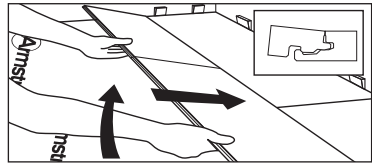

Fig. 13
4. Angle up and push forward until the boards lock together (Fig. 13).